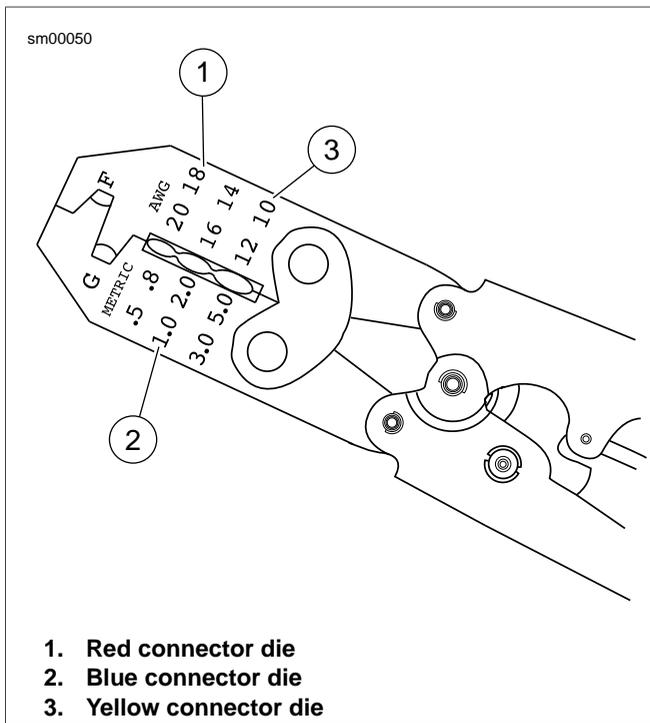

Figure A-48. Packard Crimping Tool (HD-38125-8)
- See Figure A-48. Open the PACKARD CRIMPING TOOL (Part No. HD-38125-8) ratchet by squeezing the handles closed.